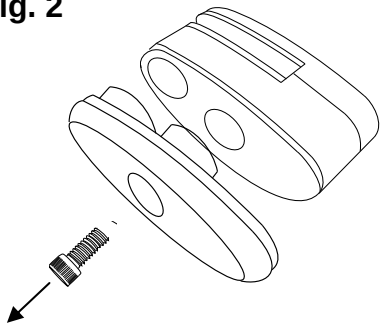

Fig. 3
4. Insert the posts on the Wing mount through the corresponding holes in the Side Wing. The Wing mount should face the front. Reassemble the Biplane clamp by fitting and tightening the Socket head cap screw (Fig 3). Do this for each pair of holes.